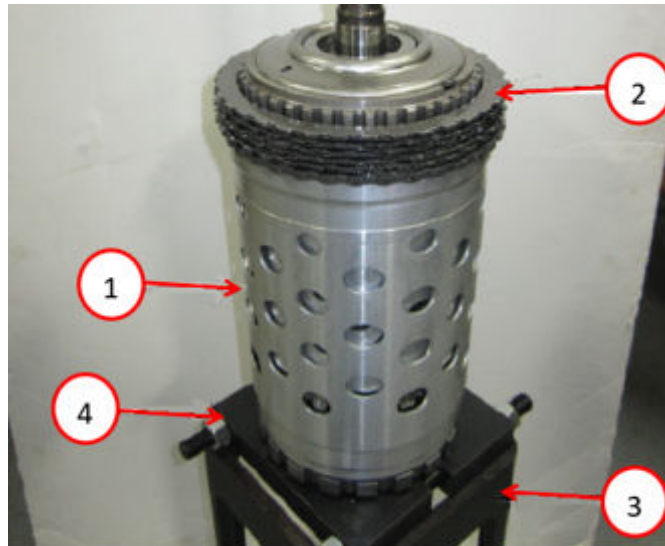

Fig. 34
52. Install the input/output shaft and P4 annulus drum assembly into the case Fig. 34.